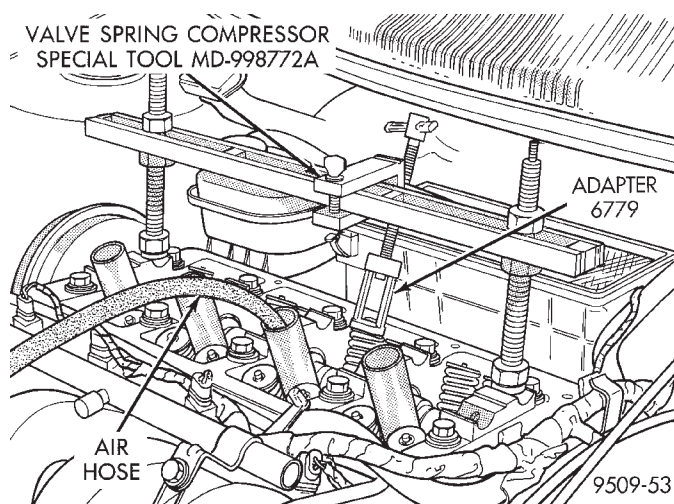

Fig. 32 Removing and Installing Valve Spring
(1) Remove rocker arm shafts assemblies as previously outlined in this section.
(2) Rotate crankshaft until piston is at TDC on compression.
(3) With air hose attached to adapter tool installed in spark plug hole, apply 90-120 psi air pressure.
(4) Using Special Tool MD-998772A with adapter 6779 (Fig. 32) compress valve springs and remove valve locks.